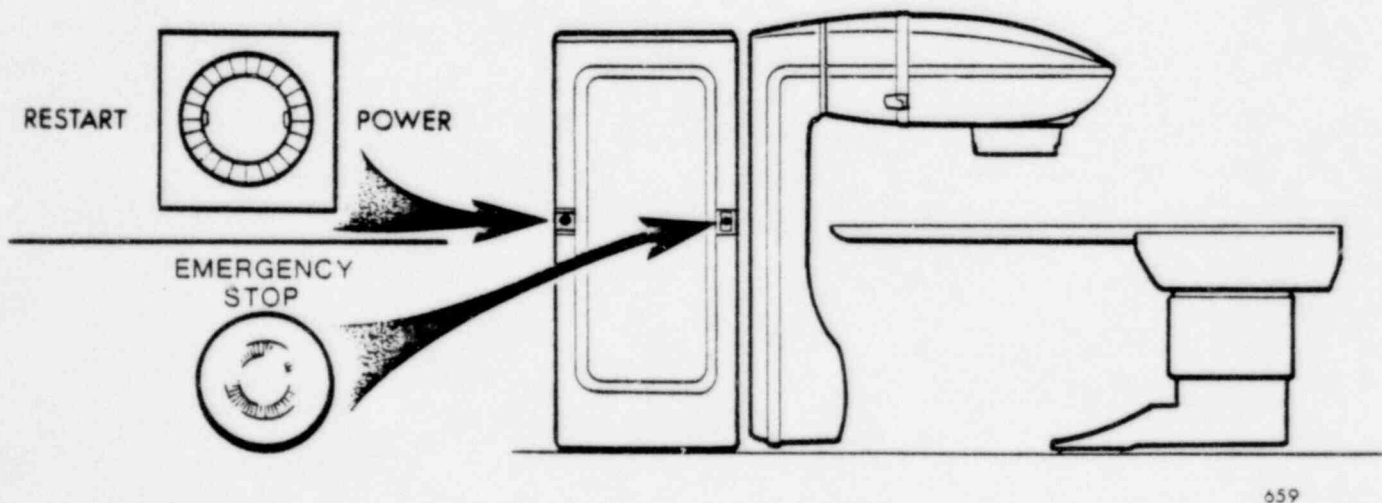

Fig. 3.9. Mainframe Controls
3.3.3 Mainframe Controls (Fig. 3.9)